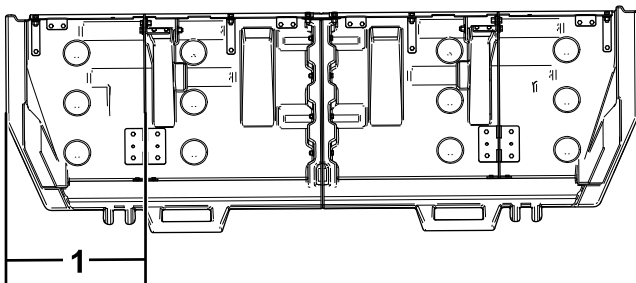

Figure 13
- Measure the distance from the track to the end of the cover (Figure 13).